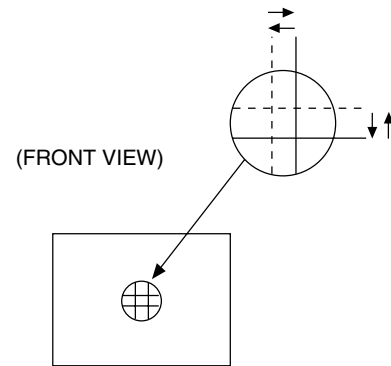

Fig. 4
2. Using 4-pole convergence magnets, overlap the red and blue lines in the centre of the screen (Fig. 4) and turn them to magenta (red/blue).